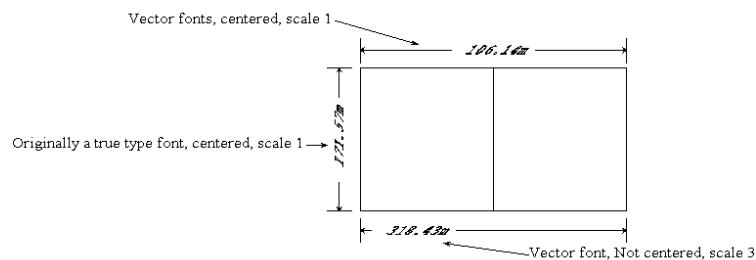

Figure 2-27 - Dimension Vector Fonts
- Slant Angle:** “Slant Angle” specifies the angle at which vector text is slanted to emulate Italics. The angle must be between  $-45^{\circ}$  and  $45^{\circ}$  (see Figure 2-27).
When the “Centered” check box is checked, dimension text is placed at the midpoint of the dimension line, regardless of the orientation or mode chosen. When unchecked, the dimension text is positioned by moving the cursor along the dimension as the line is positioned (see Figure 2-27).